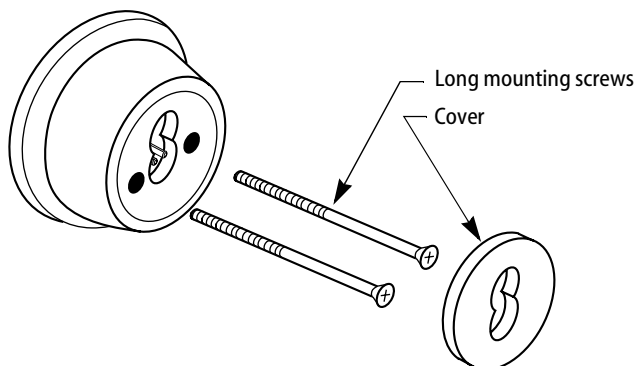

Figure 8 — Installing the inside cylinder mounting screws & cover
- 3 Insert long mounting screws and tighten. See Figure 8.